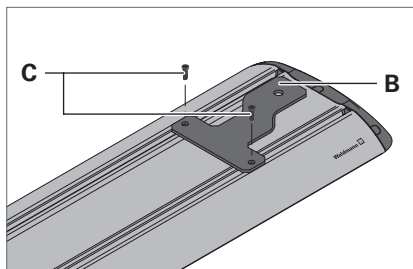
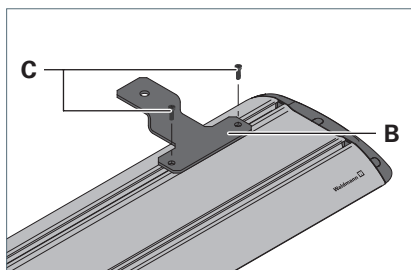

Fig. 6: Mounting the bracket for mounting type "Top, fixed," 1st option.
Fig. 7: Mounting the bracket for mounting type "Top, fixed," 2nd option.
- Mount the two enclosed brackets **B** on the luminaire using the enclosed screws **C** and the slide nuts and tighten the screws, see Fig. 6 or see Fig. 7.